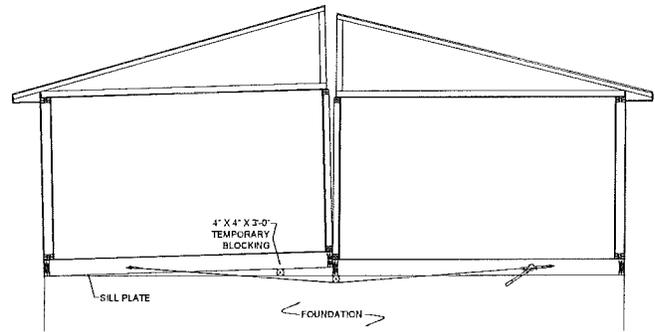

Figure 6
Since the unit is on an angle, the sling can be removed at the marriage line easier while still keeping the units as tight as possible. Once the slings have been removed, an eye bolt or large lag screw should be installed on a floor joist of each unit at two (2) different points. A come-along is to be attached to each unit to the minimum gap at the marriage wall. At this time, using cribbing and a floor jack, remove the 4" x 4" block and lower the mating wall to the foundation (see **Figure 6 and 7**).